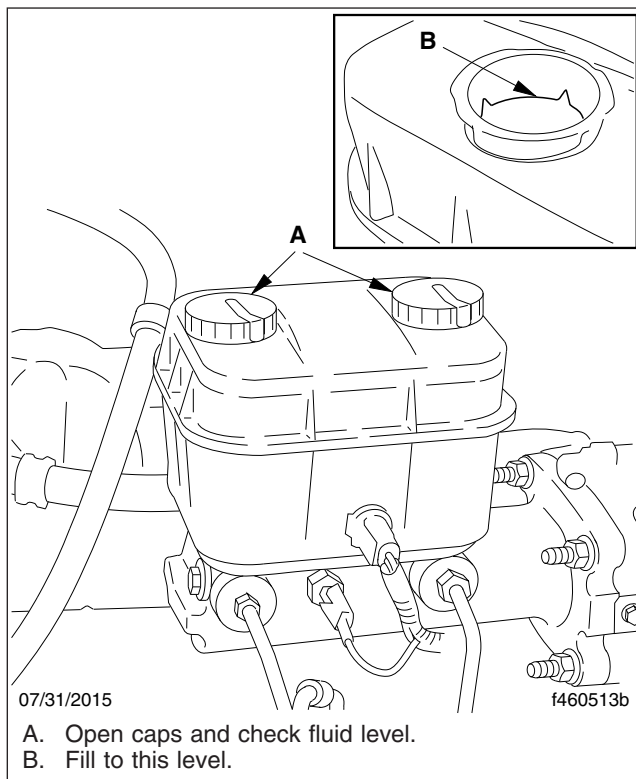

Fig. 11.16, Hydraulic Brake Reservoir
3. Check the hydraulic brake reservoir, if equipped. If necessary, add DOT 3 brake fluid. See **Fig. 11.16**.